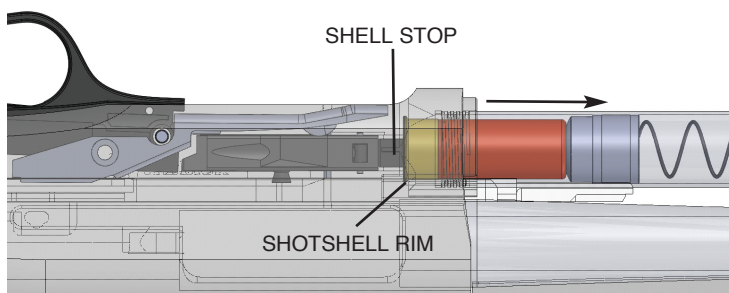

FIG.OA4
2. Continue carefully pushing the Shotshell into the Magazine Tube until the Rim of the Shotshell is past the Shell Stop FIG.OA4. The Shell Stop will “snap” over the Rim of the Shotshell. Repeat this sequence to load each additional Shotshell.